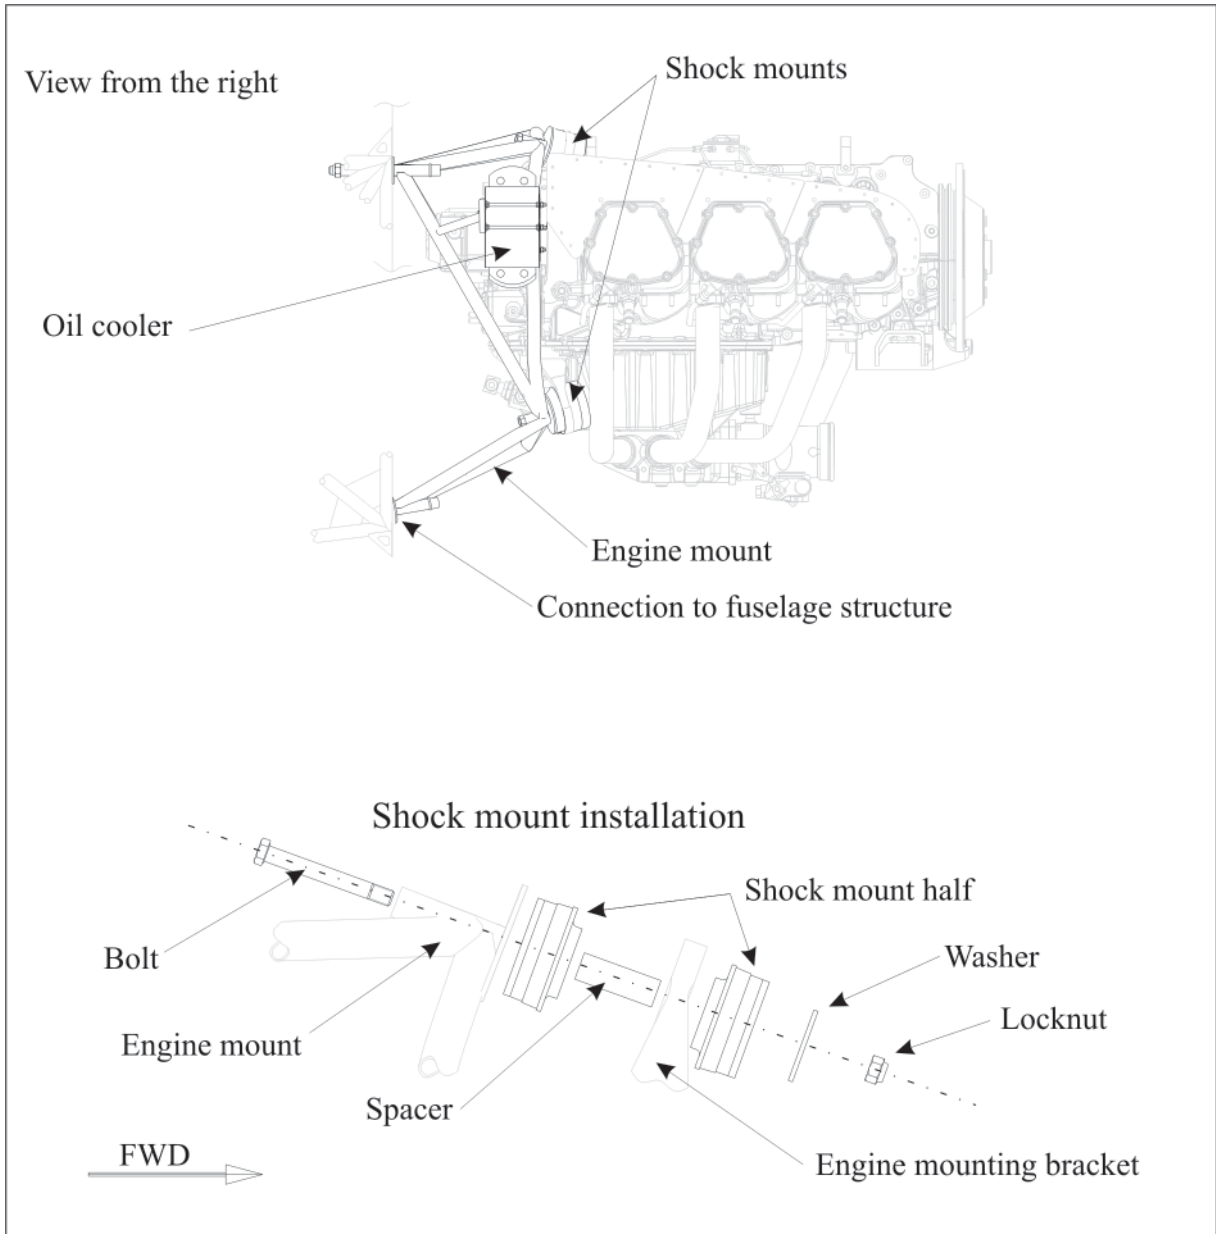

Figure 3
- 2 Unscrew locknuts of the mounting bolts (refer to figure 3) at the shock mounts.
Each of the 4 shock mounts consists of two rubber halves and one tubular spacer (ref. figure 3) fixed by a single bolt.
- 2 Unscrew locknut of the mounting bolt at *one* shock mount (ref. figure 3).